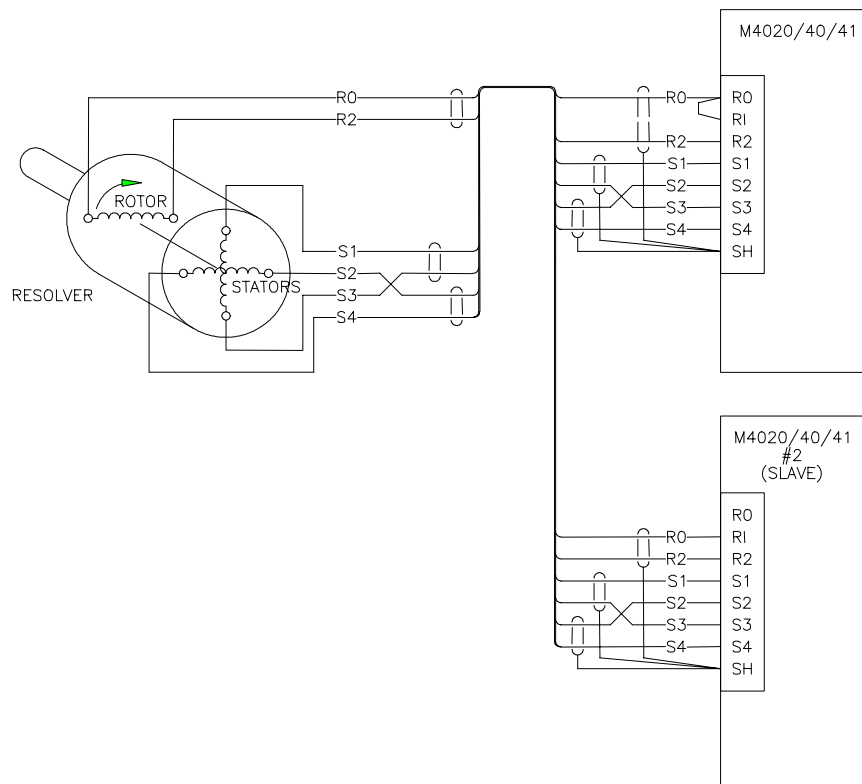

Figure 12.8 – M4020/40/41's Slaved to One Resolver
Figure 12.8 shows two M4000 modules wired to one resolver with module #2 slaved to module #1 (reference for resolver supplied by module #1). In this case the reference output (RO) of module #1 is connected to the resolver and tied to the reference inputs (RI) of both modules while the reference output of module #2 is not used. Up to 8 modules can be slaved off one resolver this way.